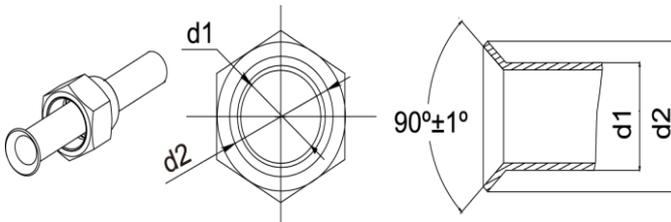

Fig. 4.10
- (1) Cut the refrigerant pipe with the pipe cutter and remove the burrs.
- (2) Hold the pipe downward to prevent cuttings from entering the pipe.
- (3) Remove the flare nuts at the stop valve of the outdoor unit and inside the accessory bag of the indoor unit, then insert them to the refrigerant pipe, after that, flare the refrigerant pipe with a flaring tool.
- (4) Check if the flare part is spread evenly and there are no cracks (see Fig. 4.10).